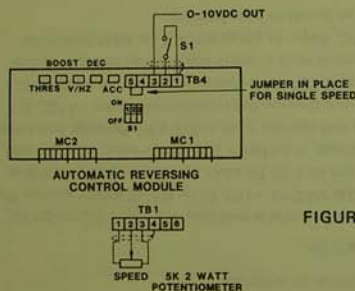

FIGURE 11
In the FHP ParaJust, electronic reversing is made available by substituting the electronic reversing control module for the standard control module. The reversing control module will allow a motor to reverse direction at the command of an external switch, limit switch, or relay contact. It is the equivalent of changing two motor leads. The reversing control module has a five (5) connection terminal block labeled TB4 (refer to Figure 11).
**7.3.2.1 SINGLE SPEED.** Connect a forward/reverse switch or contact across terminals 1 and 2 of TB4 on the control module (reference Figure 11). Connect the 5000 ohm speed potentiometer to terminals 1, 2 and 3 of TB1 as described in paragraph 4.4.1. BE SURE THAT THE JUMPER IS IN PLACE BETWEEN TERMINALS 4 AND 5 OF TB4 ON THE CONTROL MODULE.